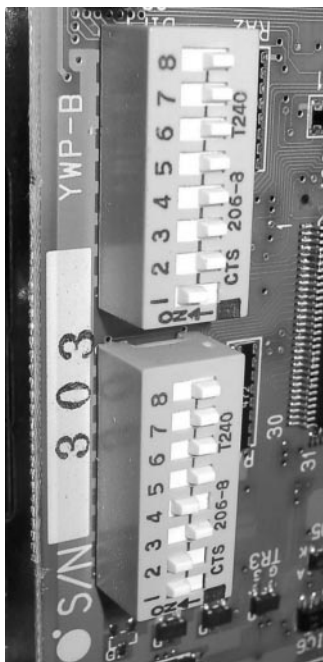

Figure 3-20. Printer Controller Board Dip Switch settings
3. Verify that the dip switches on the printer control board conform with the switch setting shown in Figure 3-20.